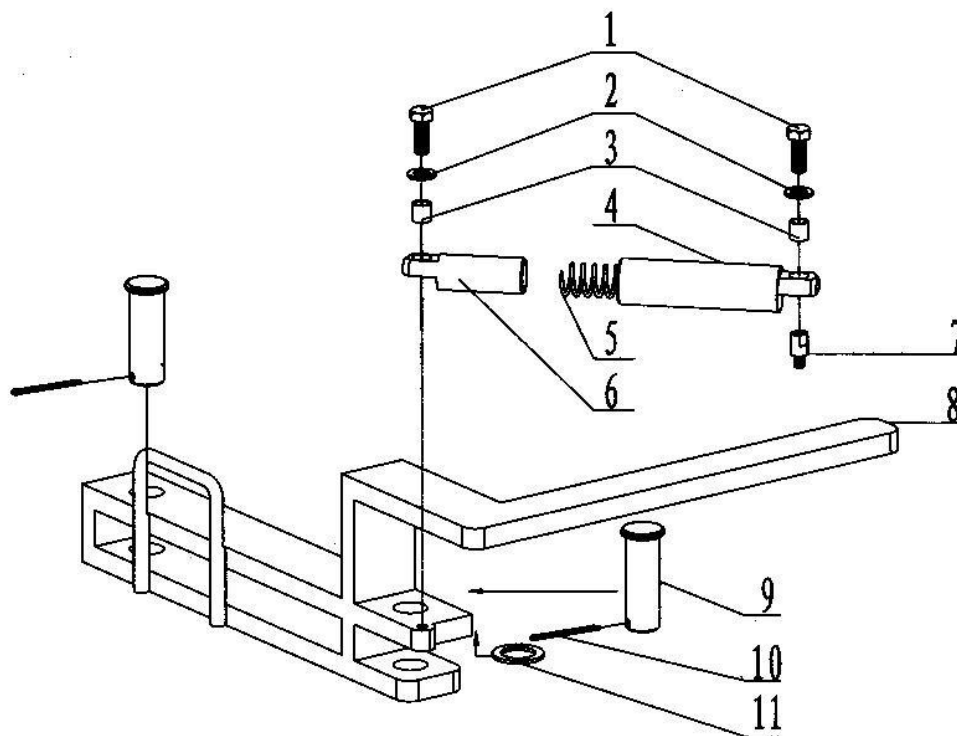

Fig 27
7.27 Backup Tong Safety door assembly (Fig 27, Table 27)